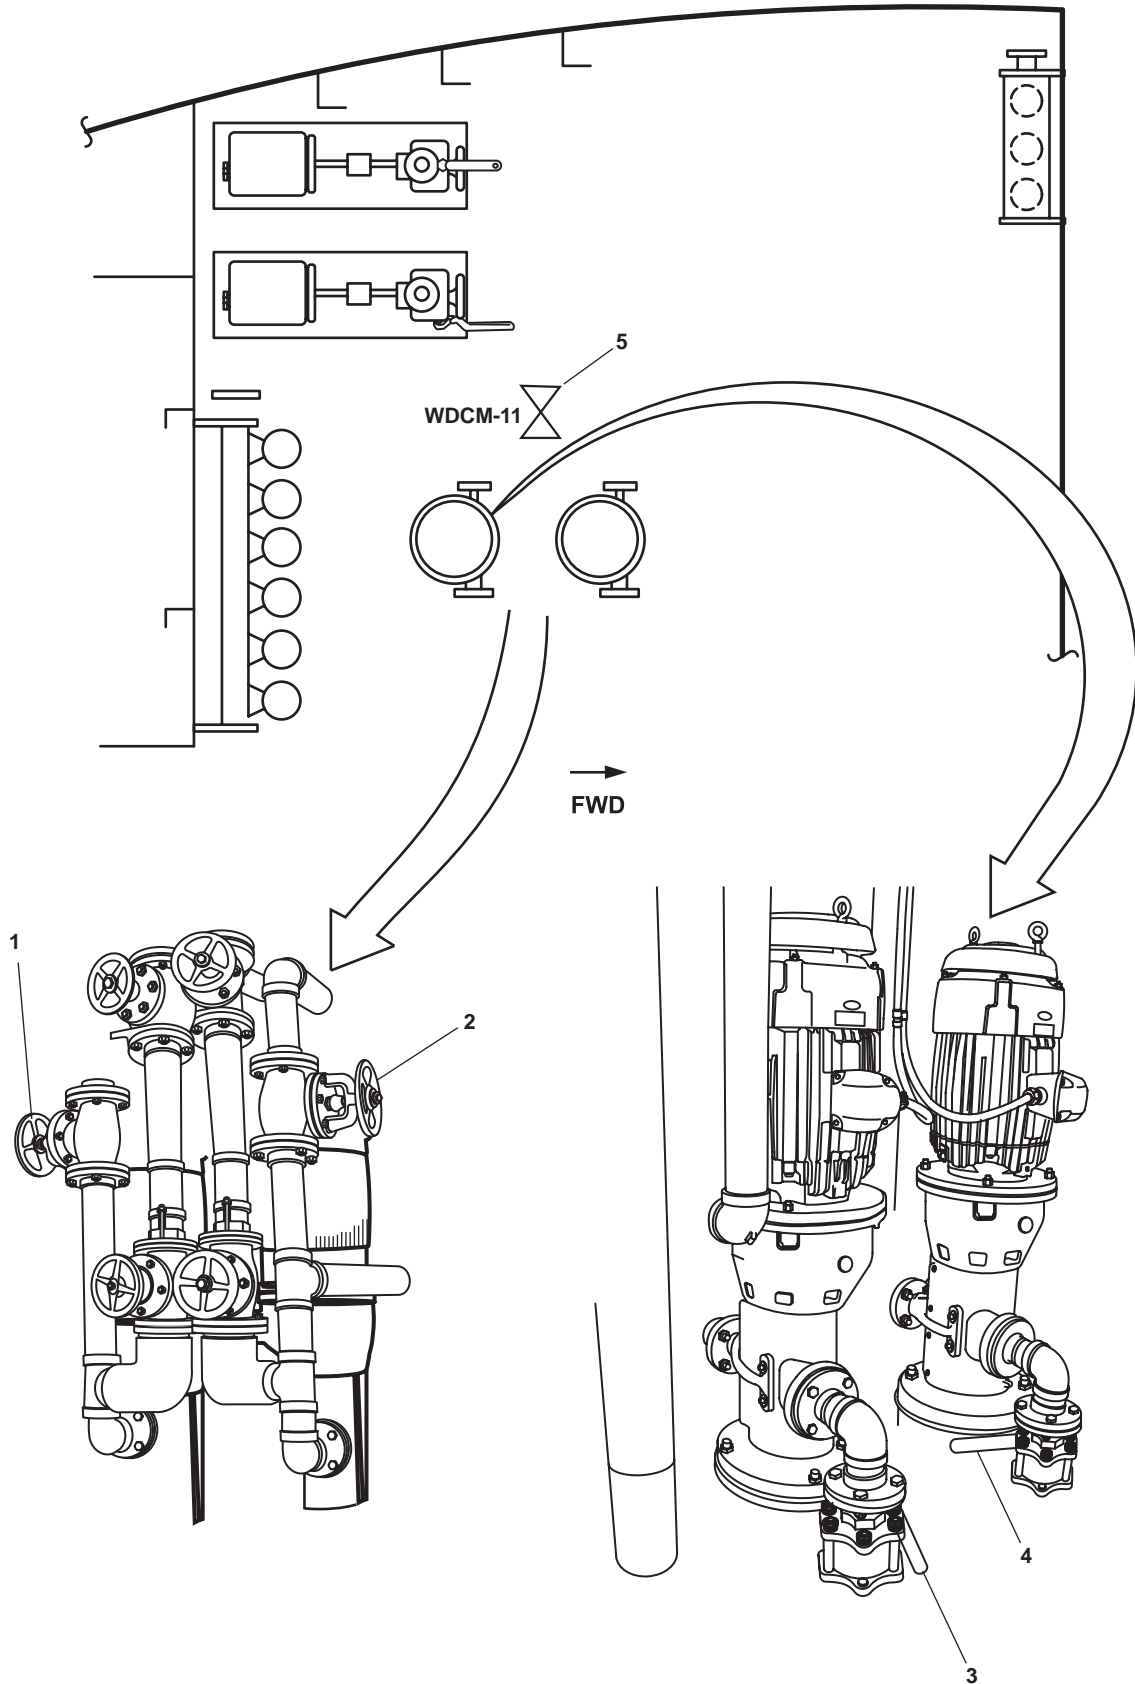

Figure 2. Fire and General Service Pump Locations
- a. FM-14, FIRE/G.S. PMP. No. 2 DISCH. TO FM. (figure 2, item 1)
- b. FM-16, FIRE/G.S. PMP. No. 1 DISCH TO FM (figure 2, item 2)
- c. FM-6, FIRE/G.S. PMP. No. 1 SUCT (figure 2, item 3)
- d. FM-7, FIRE/G.S. PMP. No. 2 SUCT (figure 2, item 4)
- e. WDCM-11, WDCM SPLY (figure 2, item 5)